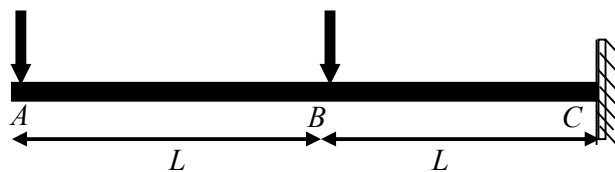

Figure 5 Cantilever beam with two point loads
- Q.5(a) Find the deflection of the beam shown in Figure 5 given below by using Strain Energy Method. [5] 5 K4